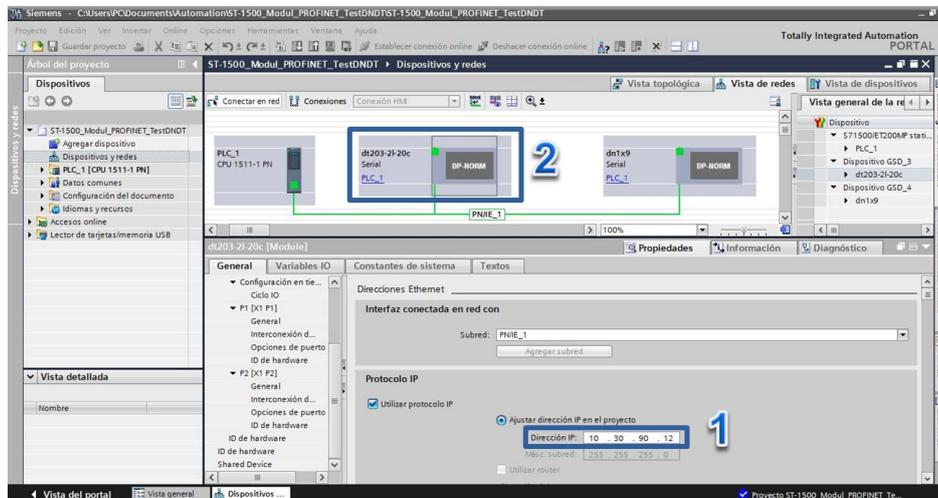

Fig. 9 Define the Displays connection with PLC
To download the configuration to the device, select the network card in the “**PG/PC interface**” field (3) at “**Extended download to device**” window, and establish the identifier of the Profinet network (PN/IE\_1 in this example, See Fig. 9) in the “**Connection to subnet**” field (4).